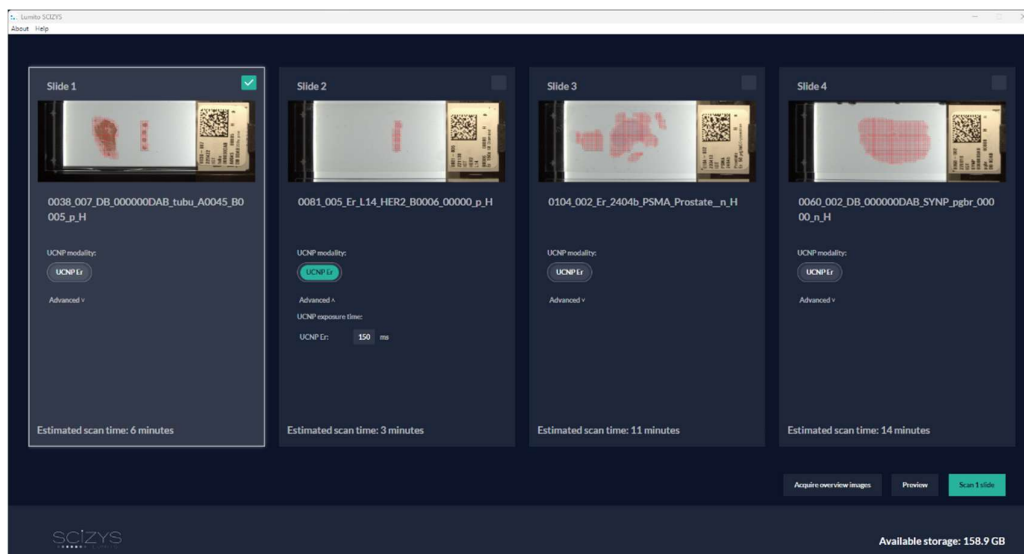

Figure 6-19 Slides with ROIs.
3. Verify that the ROI is set as desired. The slide is highlighted by a white frame and a green checkmark, indicating that the slide will be added to the next scan (*Figure 6-19*). To further adjust the ROI, repeat steps 1-2.